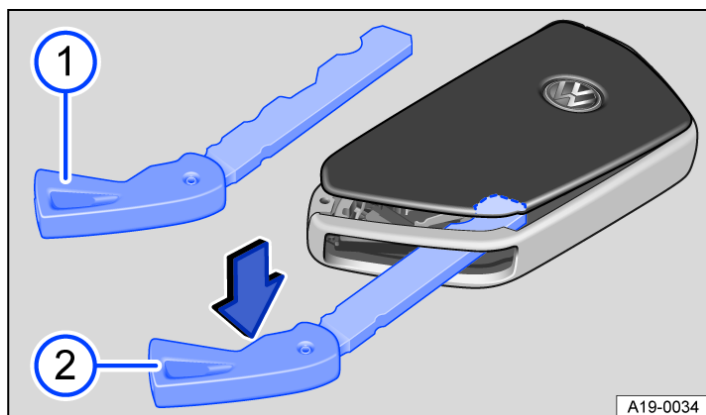

Fig. 1 Vehicle key: opening battery compartment cover.
- Remove the spare key → Fig. 1 ① (→ Vehicle key).
- Insert the spare key in the slot → Fig. 1 ②, press in the direction of the arrow and lever off the cover.